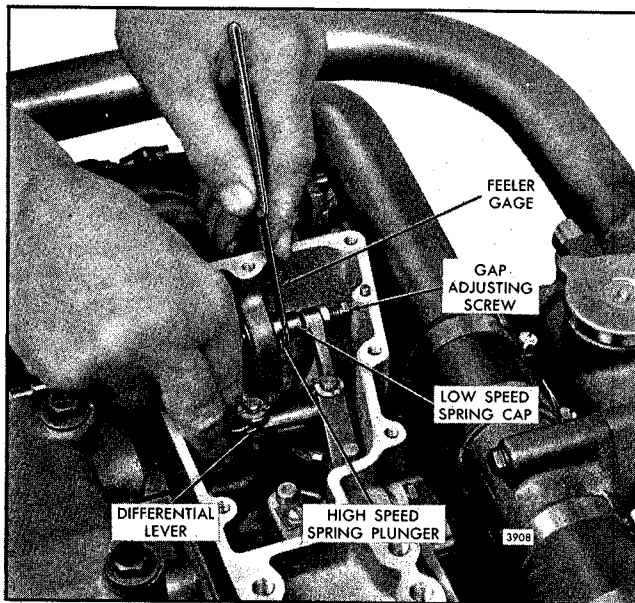

Fig. 18 - Checking Governor Gap
6. Check the gap between the low speed spring cap and the high speed spring plunger with a .0015" feeler gage. If the gap setting is incorrect, reset the gap adjusting screw (Fig. 18).